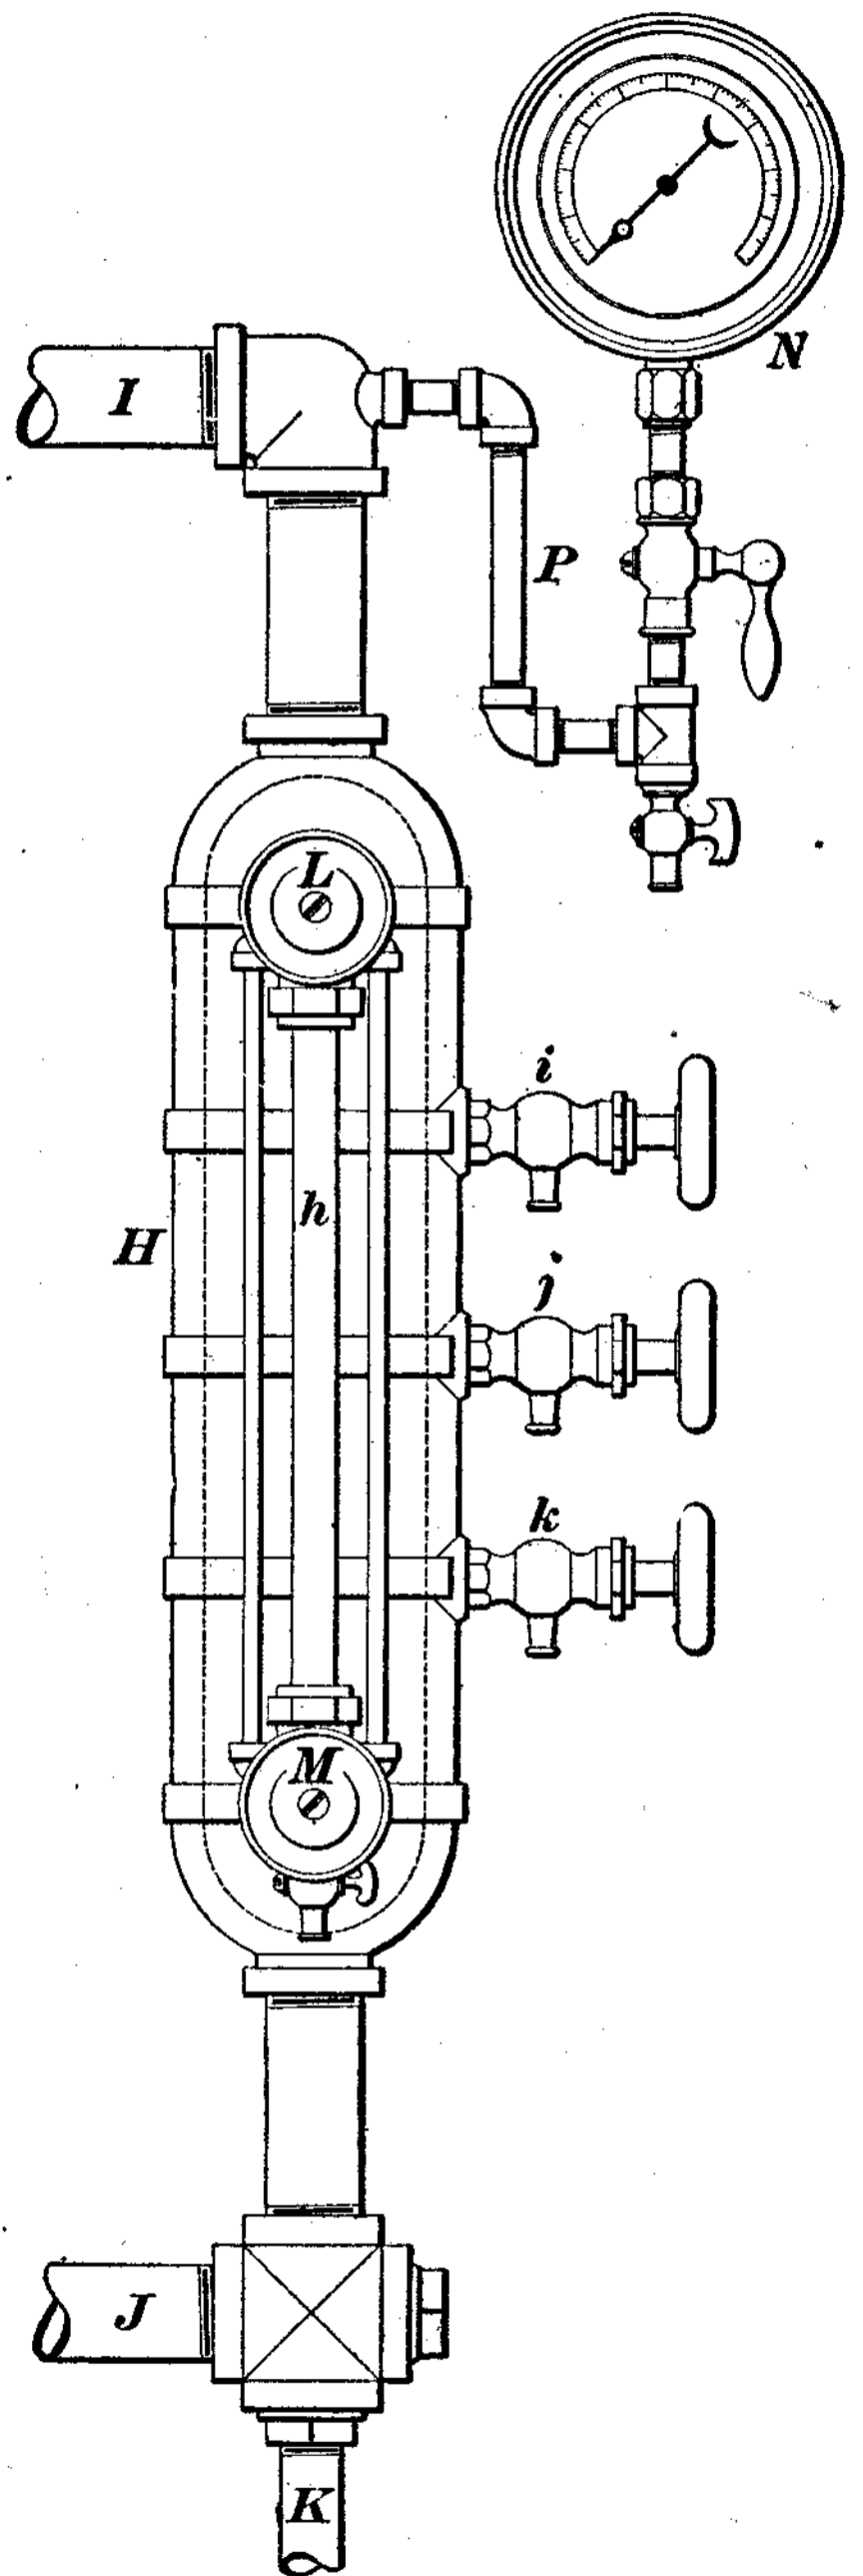

FIG. 13
23. The arrangement in Fig. 13 illustrates how a steam gauge *N* may be attached to the water column by means of a siphon *P* made from ordinary brass pipe and fittings. The standpipe *H* carries on one side the upper fitting *L* and lower fitting *M* for the gauge glass *h*, and at right angles to this gauge the three gauge-cocks *i*, *j*, and *k*. The pipe *I* leads to the steam space of the boiler, and the pipe *J* to the water space. A drain pipe *K* is attached to the cross shown. The arrangement illustrated is recommended by the Hartford Steam Boiler Inspection and Insurance Company.